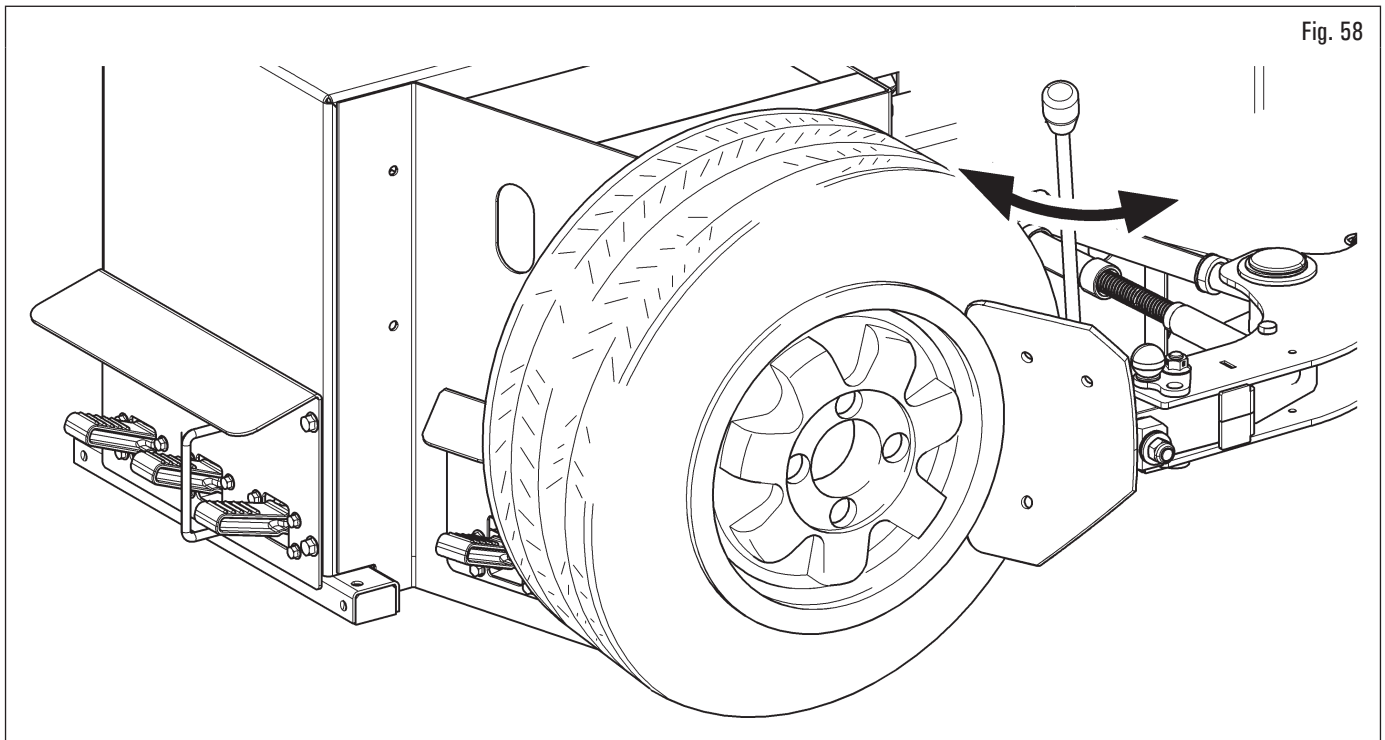

Fig. 58
1. position the wheel as indicated in Fig. 58 and move the bead breaker shovel towards the edge of the rim;